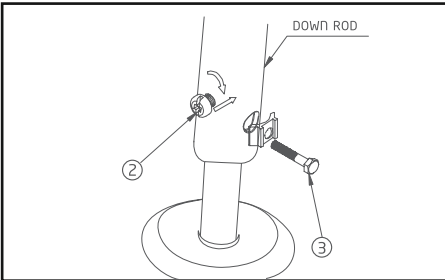
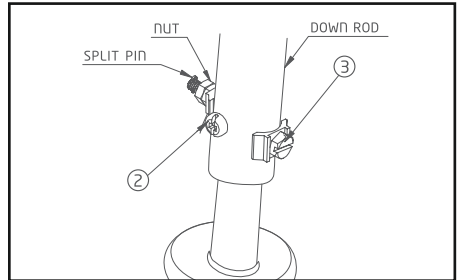

Figure 4
Figure 5
Insert down rod bolt ③ and safety screw ② in down rod and align them properly. See Figure 4. Tighten safety screw ② and the down rod bolt ③ with nut and lock the split pin. See Figure 5